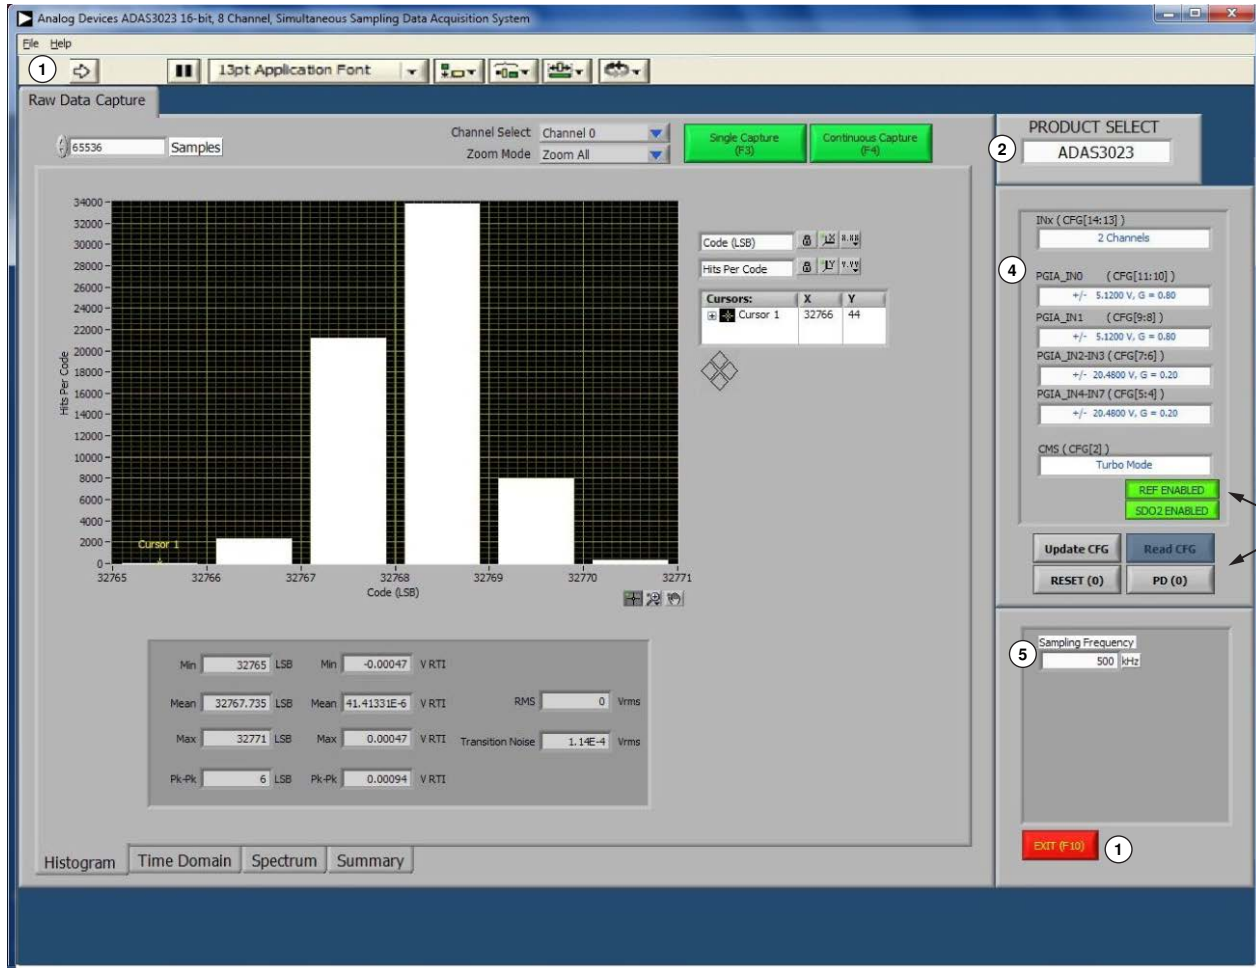
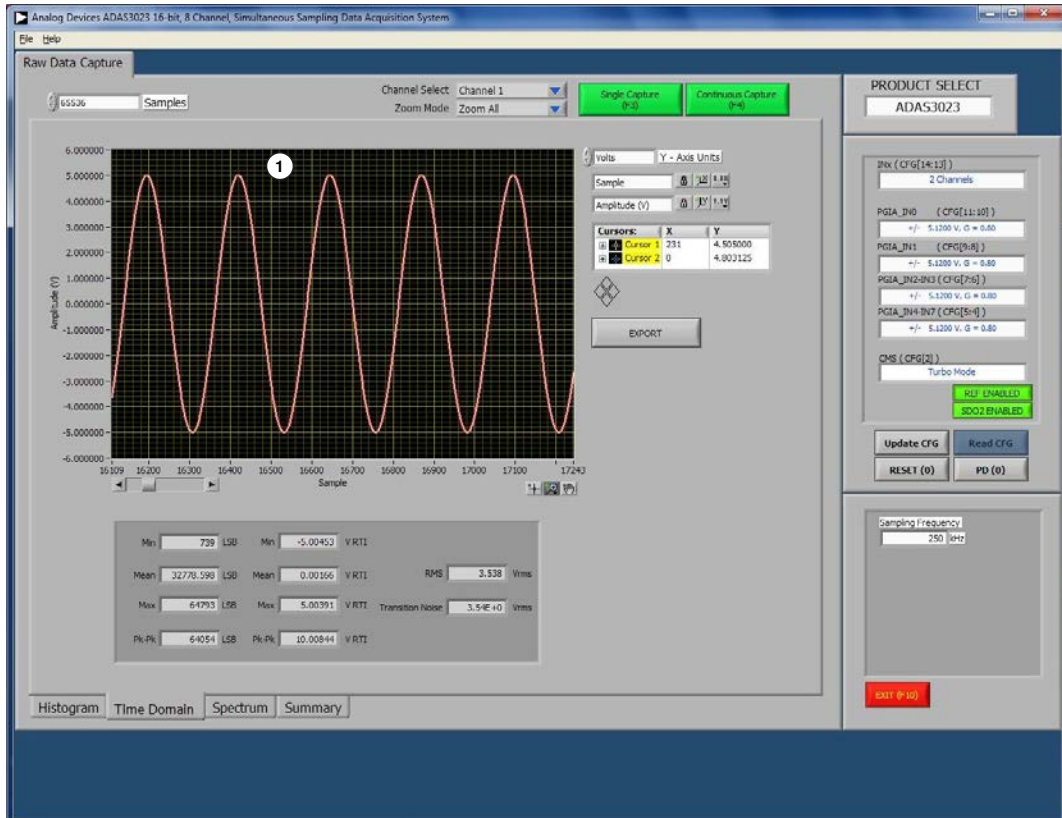

Figure 10. Setup Screen
Figure 19. Time Domain
Refer to Figure 10 to Figure 19 for further details and features of the software.
Refer to the numbered labels in Figure 10 which match the numbered descriptions in this section. This section details the operation of the software located in the default directory:
1. When running the software from **Start/All Programs/Analog Devices**, the software automatically runs. Select **EXIT (F10)** to stop the software and display the right arrow (see 1 in Figure 10). This arrow is used to start the software again. When running the software, this icon is not displayed.
- **RESET (0)** resets the **ADAS3023** device to a known state. Click **RESET** twice: once to reset the **ADAS3023** and again to bring it out of the reset state. Note that the CFG is also reset to the default condition.
- **PD (0)** places the **ADAS3023** device in power-down. This does not need to take place when starting the software.
- The CFG controls (labeled 4 in Figure 10) are used to set the CFG. See the Software Controls section.
The time domain (oscilloscope) data is shown in Figure 19 (see label 1).